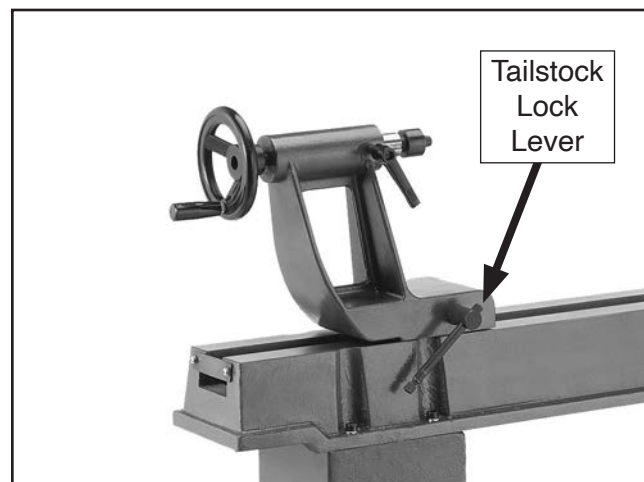

Figure 17. Location of tailstock lock lever.
1. Loosen tailstock lock lever and move tailstock to desired position along bed, as shown in **Figure 17**.